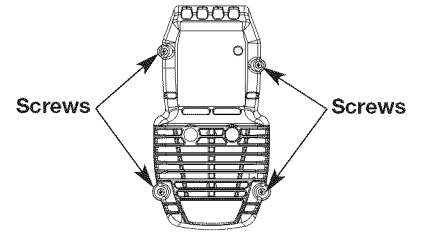

Fig. 13
1. Remove the four (4) screws securing the air filter/muffler cover (Fig. 13). Use a flat blade or T20 Torx bit screwdriver.
2. Insert the four (4) screws into the holes in the air filter/muffler cover (Fig. 13) and tighten. **Do not over tighten.**
8. Reinstall the air filter/muffler cover (Fig. 13).